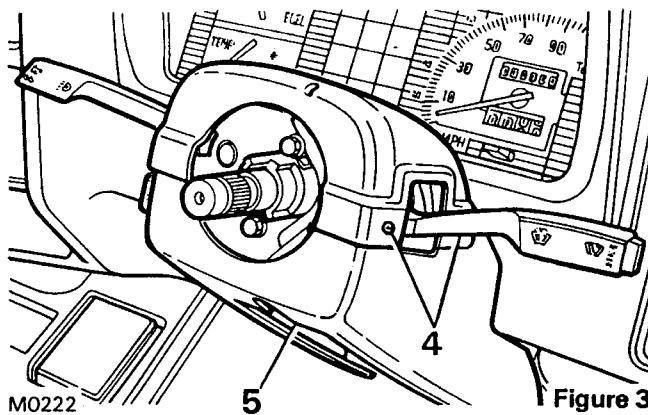

Figure 3
4. Remove four screws and remove top cover from multi-switch, see Figure 3.